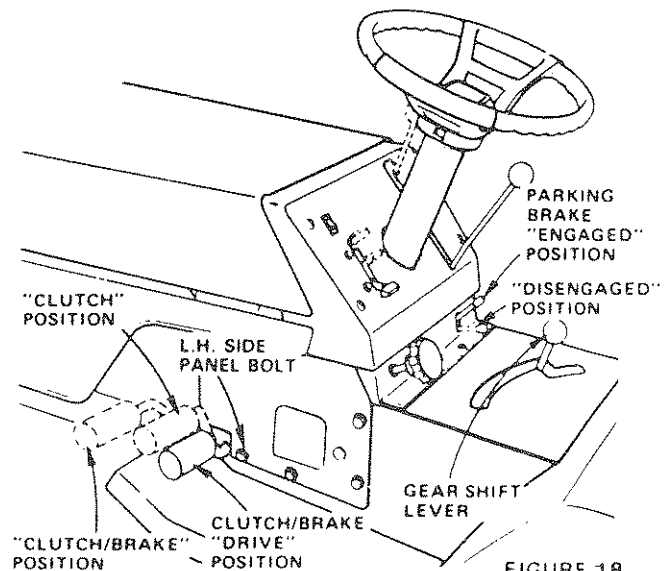

FIGURE 18
- Connect the other end of the cable to the L.H. side panel bolt (Fig. 18) NOTE: KEEP AWAY FROM GAS TANK AND BATTERY.
- L.H. Side Panel Bolt (Fig. 18)